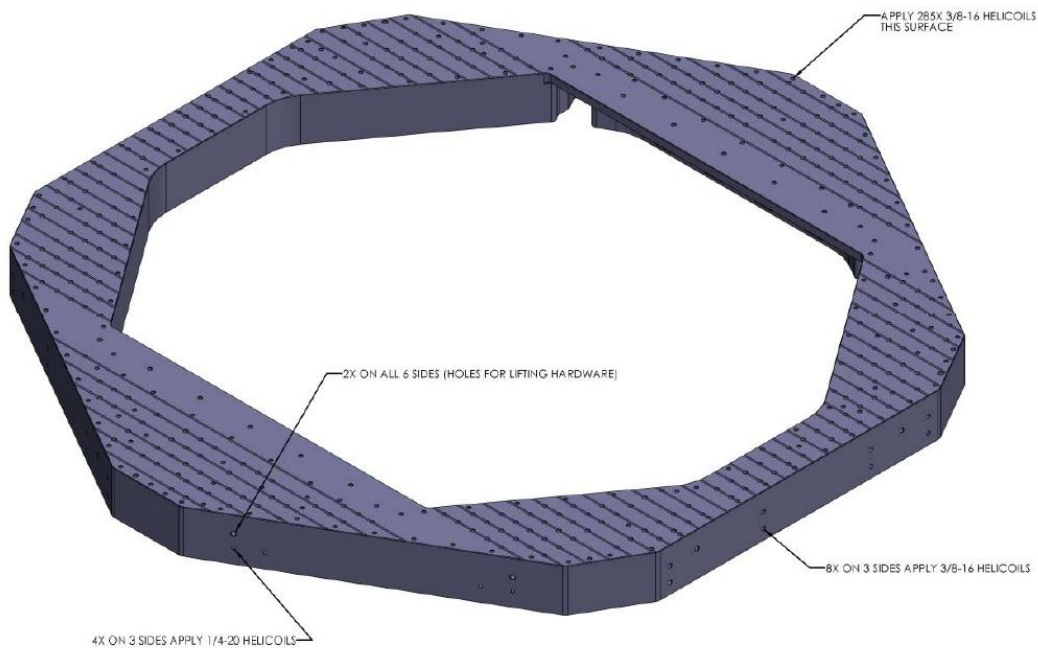

Figure 5: Insert 3/8-16 x 2DIA & 1/4-20 x 2DIA Helicoils in D0900894 Bottom Part of Stage 0
(3) 1/2" x 1.25" dowel pins
- Install Nitronic 60 Helicoil threaded inserts into D0900894 as shown on Figure 5